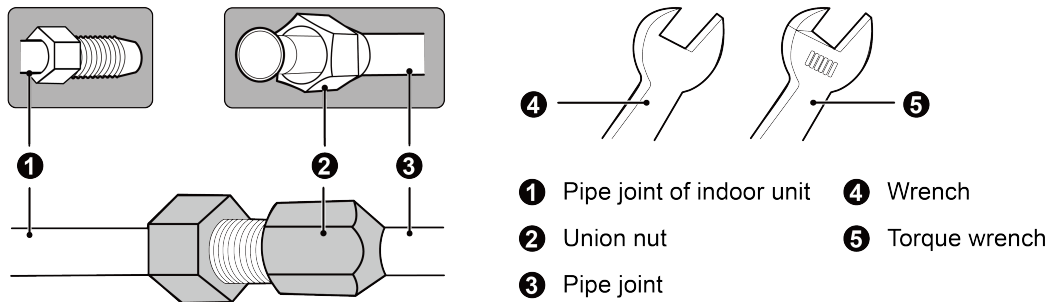

Fig.4.2
- (1) Direct the flaring of copper pipe to the center of screwed connection and then screw the flaring nut tight as shown in Fig.4.2.
- (2) Use a torque wrench to tighten up the flaring nut until the wrench gives out a click sound.